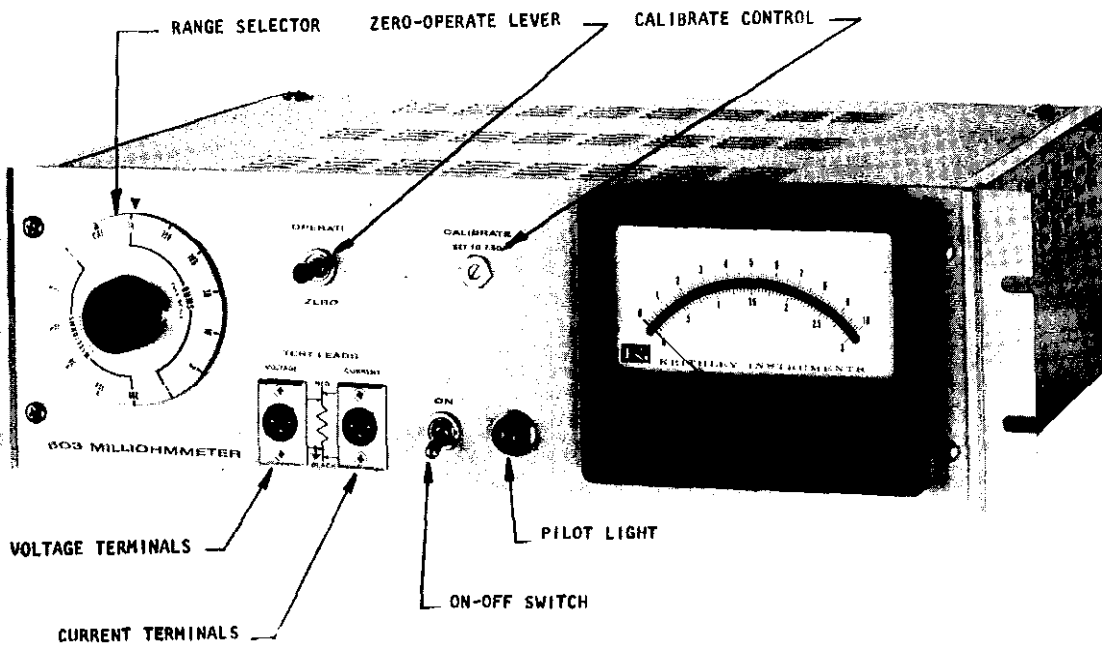

FIGURE 3. Model 503 Controls.
1. **RANGE SELECTOR:** The RANGE SELECTOR has six milliohm positions ranging from 1 milliohm to 300 milliohms, and seven ohm positions ranging from 1 ohm to 1000 ohms. A CAL position is provided for instrument calibration. (Fig. 3)
2. **ON:** Toggle switch is the main power switch. Presence of power is indicated by the illuminated front panel pilot lamp. (Fig. 3)
3. **OPERATE-ZERO:** This is a lever switch. With the switch in the up (operate) position the 503 is ready to take measurements. In the down (zero) position the 503 is in zero check. (Fig. 3)
4. **CALIBRATE:** This control is used to calibrate the meter and the output voltage of the 503. It is a recessed slotted control that can be adjusted with a screw driver. (Fig. 3)
5. **VOLTAGE TERMINALS:** A 3-pin male receptacle is used for connection to the voltmeter circuit. Pin No. 3 is at chassis ground. Either test lead can be plugged into this receptacle. (Fig. 3)
6. **CURRENT TERMINALS:** A 3-pin male receptacle is used for connection to the current source. Either test lead can be plugged into this receptacle. (Fig. 3)